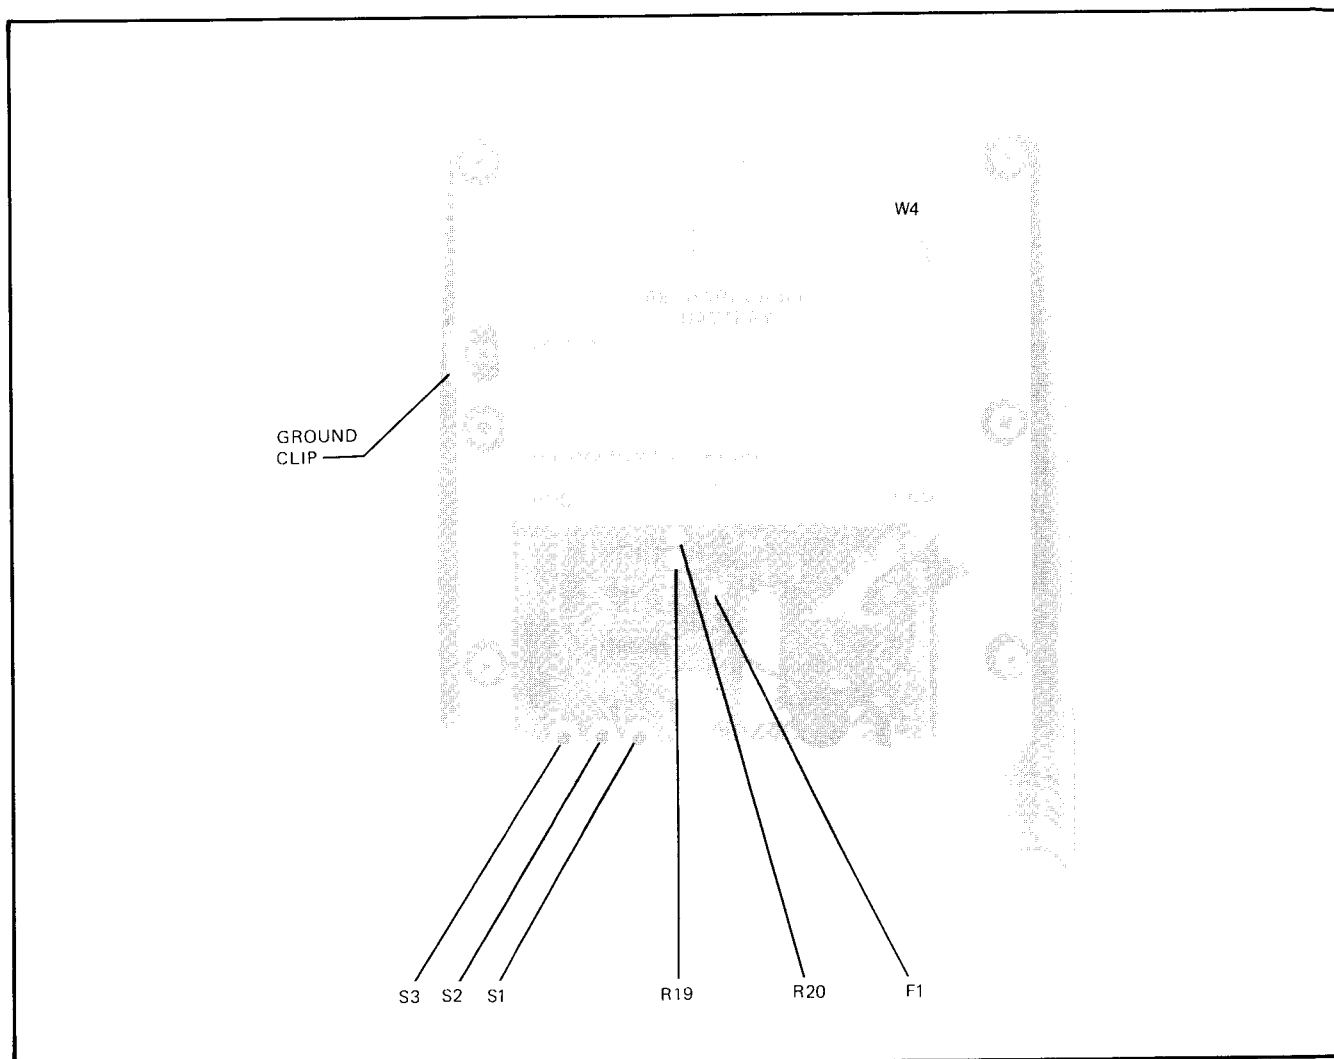

Figure 7-3. Option 002 Battery Charger Adjustment Locations
For the A6 Assembly, use *Tables 7-2* and *7-5* and *Figures 7-3* and *7-5*.
For the A6 Assembly, use *Tables 7-2* and *7-5* and *Figures 7-3* and *7-5* except:
- a. Refer to Figure 7-3.